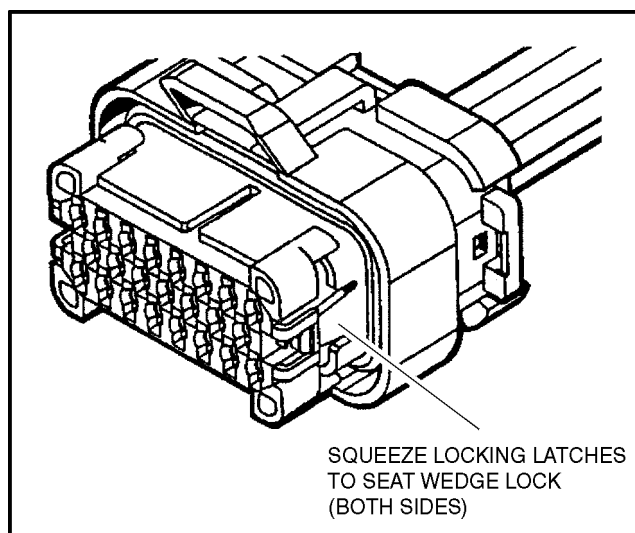

Figure 8-8. Connector Assembly (3 of 4)
3. After all required contacts have been inserted, the wedge lock must be closed to its locked position. Release the locking latches by squeezing them inward (See Figure 8-8. Connector Assembly (3 of 4)).